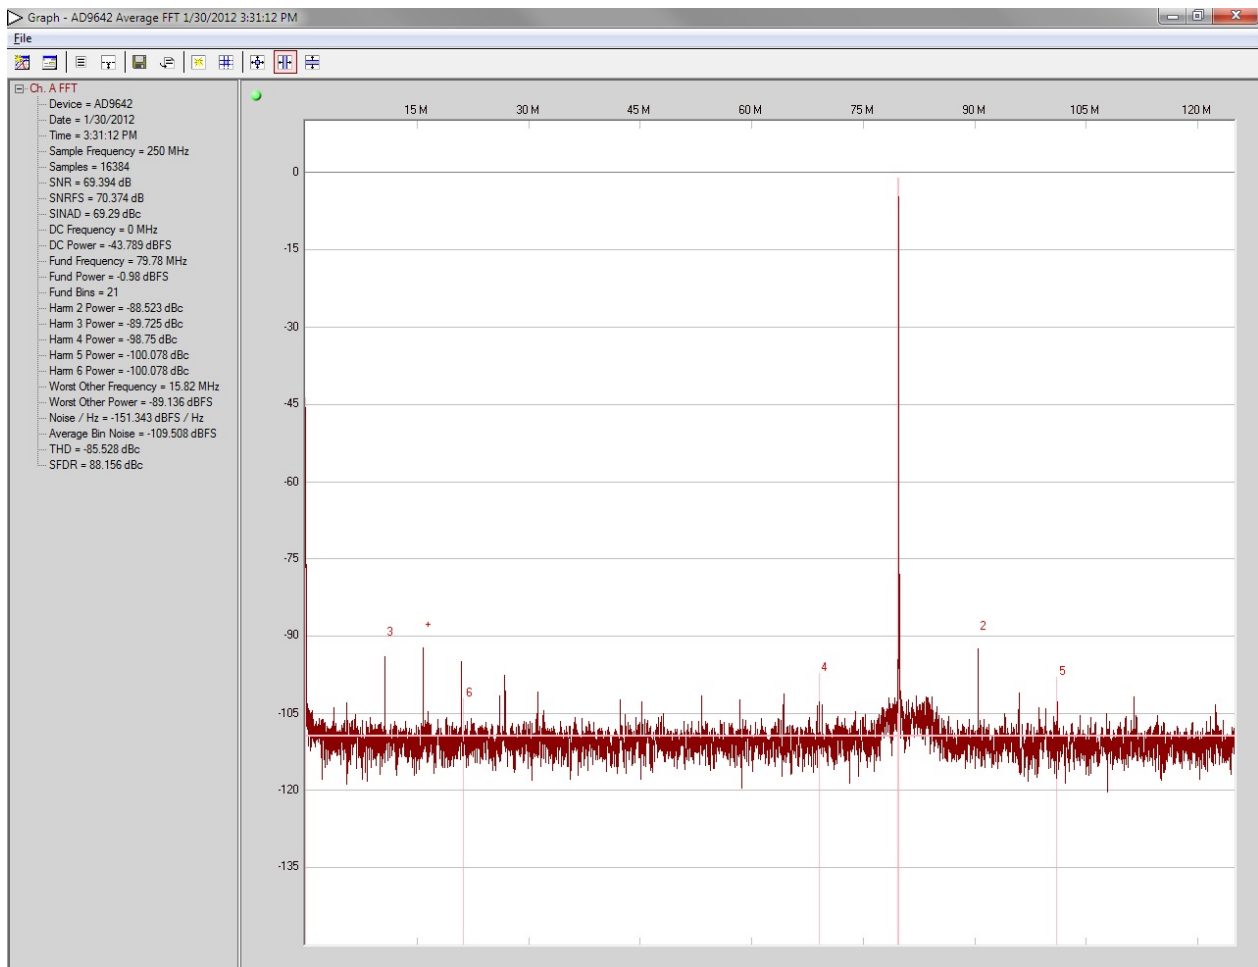

Figure 15. Graph Window of VisualAnalog (AD9642)
1. Adjust the amplitude of the input signal so that the fundamental is at the desired level. (Examine the **Fund Power** reading in the left panel of the VisualAnalog **Graph** window.) See Figure 15.